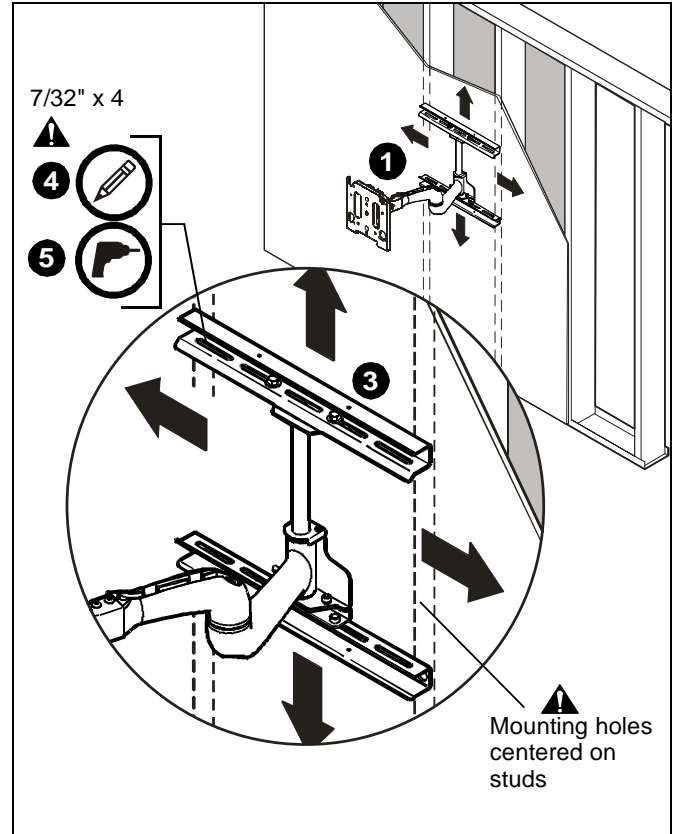
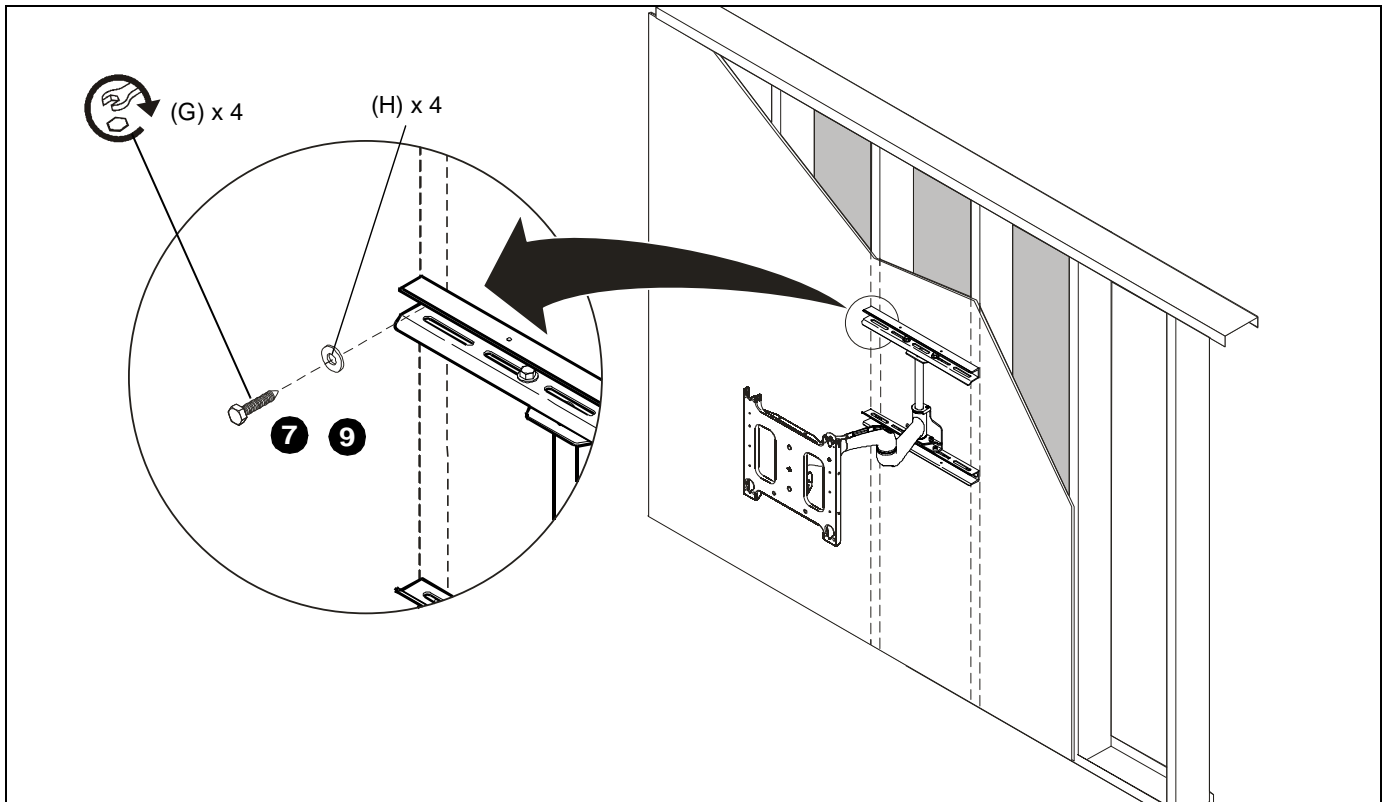

Figure 2
Figure 3
2. Using a stud sensor locate two wood studs 16" apart on center. (See Figure 2)
3. Using two people, place mount against wall and level mount aligning mounting holes in upper and lower wall channels with studs. (See Figure 2)
4. Use a pencil mark four mounting holes making sure mounting holes are located as close as possible to center of studs. (See Figure 2)
5. Drill four pilot holes where the mounting holes were marked using a 7/32" (6mm) drill bit. (See Figure 2)
6. Install two 5/16" x 2-1/2" lag bolts(G) and two 0.135" thick washers (H), through mounting holes in upper wall channel and into pilot holes. DO NOT tighten at this time.
9. Install two 5/16" x 2-1/2" lag bolts (G) and two 0.135" thick washers (H), through mounting holes in lower wall channel and into pilot holes. (See Figure 3)